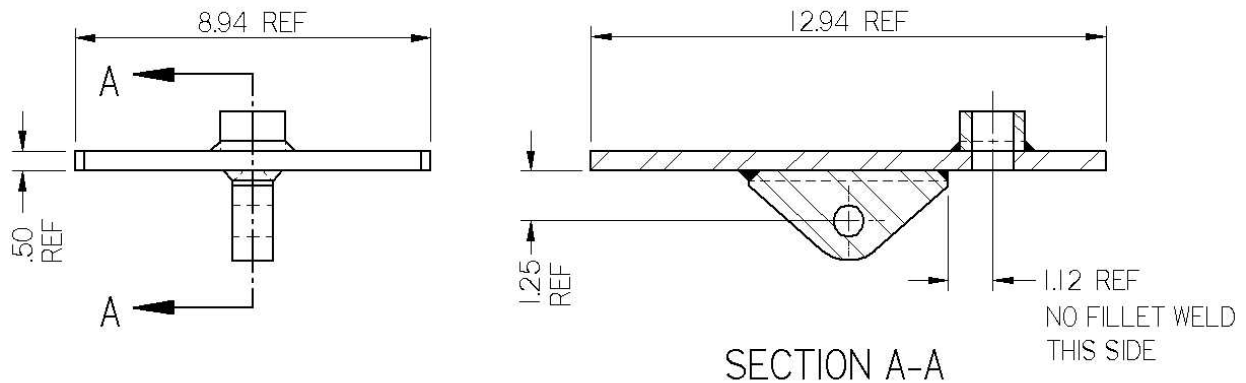

Figure 6: Cylinder Top Mount Plate – Canrig P/N 829-48-0
- e) Once the new cylinder top mount plate is received, it should look like the plate shown in figure 6 below.